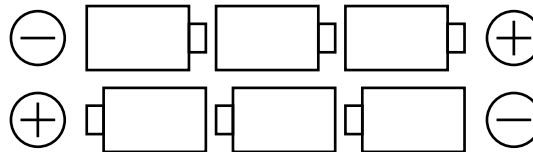

Figure 3-2 Battery illustration diagram on back of the tool
3. Observing proper polarity (shown on the back of the scan tool, Figure 3-2), install six AA batteries.